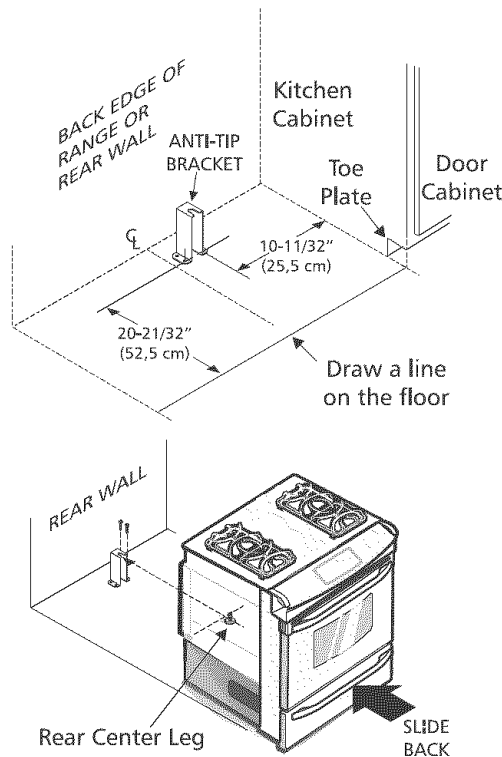

Figure 13
2. Unfold paper template and place it flat on the floor with the front and side edges positioned exactly on the cabinet line you just drew before. (Use the diagram below to locate brackets if template is not available. (figure 13))
6. Slide range into place making sure rear center leg is trapped by the anti-tip bracket (figure 13). Lower the range by adjusting the 4 leveling legs until the underside of the cooktop is sitting level on the countertop. Refer to "Leveling the Range" on page 6.